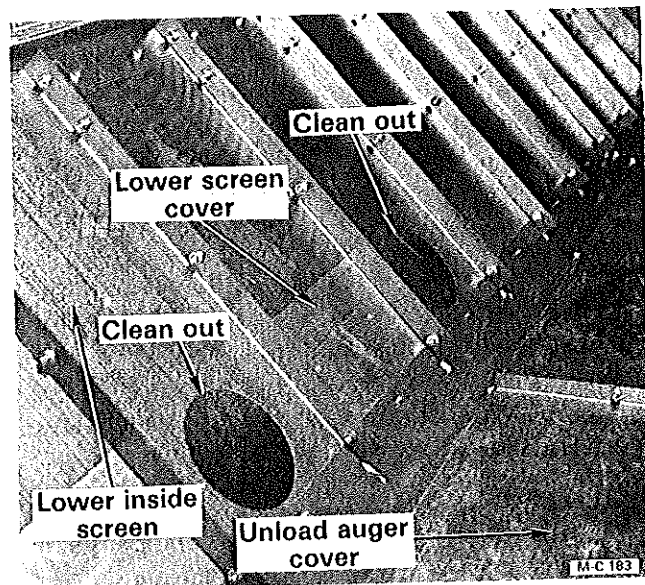

Figure 25
- C. There is a clean-out in every lower inside screen. Remove every lower screen cover, see Figure 25. After the frozen grain has been loosened, reinstall the lower screen covers, heat chamber door in the floor and close the dryer rear door.
8. Open the dryer rear door and remove the heat chamber door in the floor of the heat chamber to gain access to the cooling chamber. Remove the unload auger covers, see Figure 25. Clean out the unload auger and the grain metering rolls. Use a vacuum cleaner or compressed air.